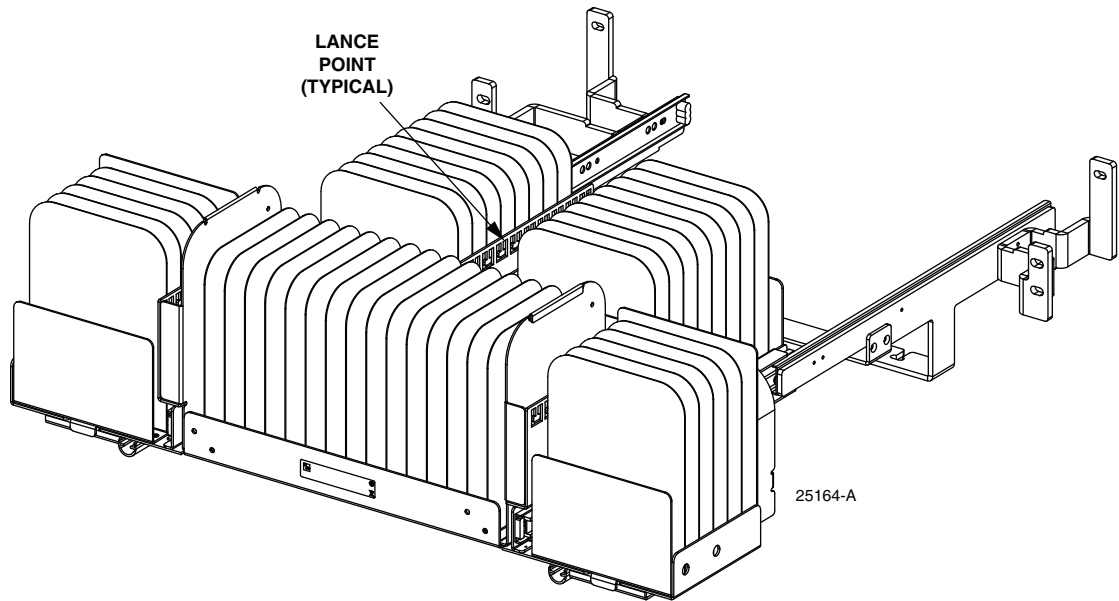

Figure 15. Typical Lance Point in Splice Chassis
As cables for splicing are routed into the splice chassis from the area below it, the cables are tied off with wax lacing at the tie off point for the designated splice tray slot. There is one slot for each splice tray with a lance point for each slot as shown in Figure 15.
- **Note:** For a definition of lance points, see Figure 15 on Page 16.